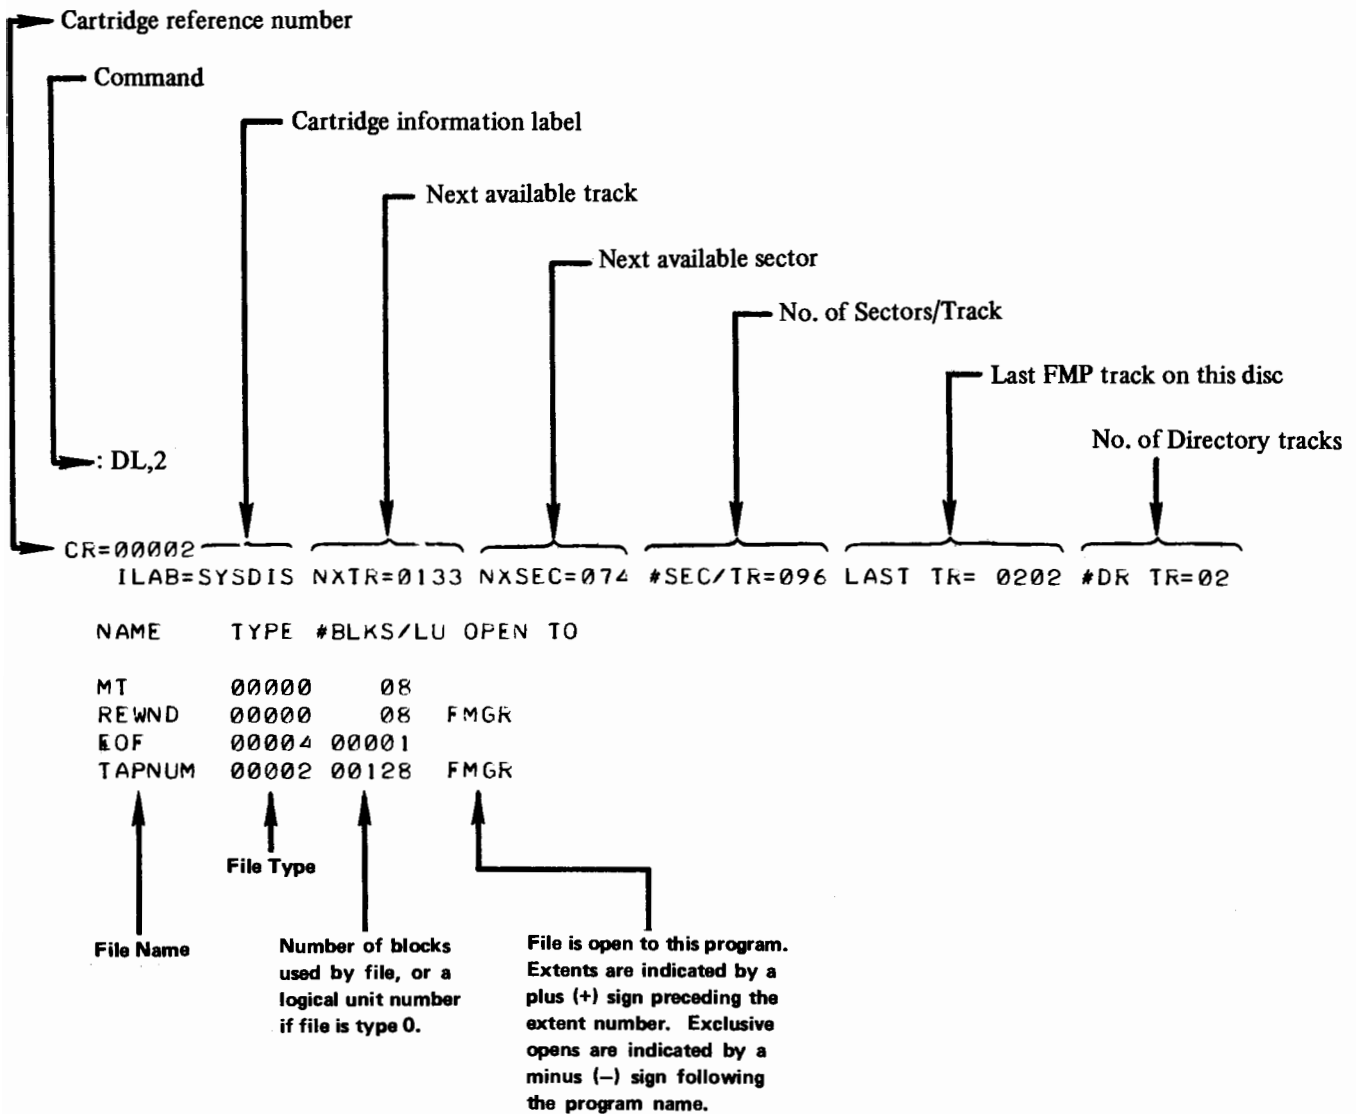
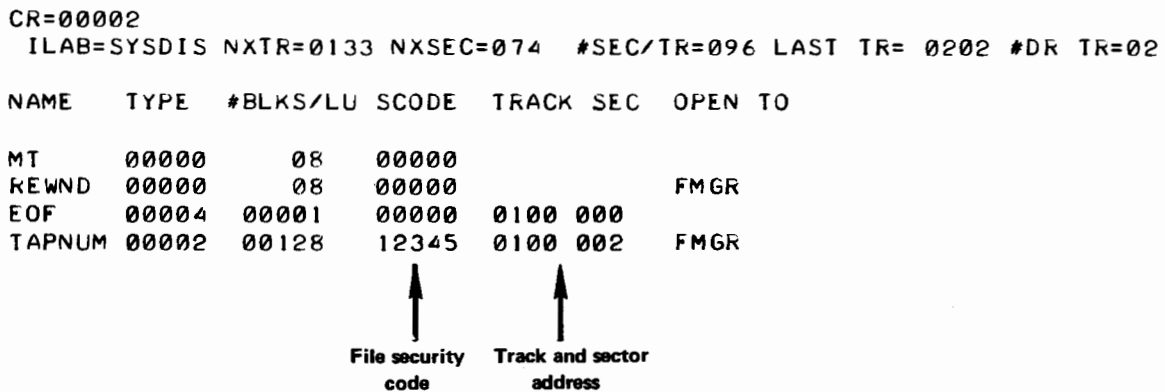

Figure 3-1. Short List
Figure 3-2. Long List
- The *label* parameter indicates which cartridge file directory is to be examined. If *label* is not present, or it is a 0, all mounted cartridge directories will be listed. There are two list formats. Figure 3-1 shows the format when the master security code is not provided.
- Figure 3-2 shows the format when the master security code is provided. In addition to the information described in Figure 3-1, the file security code plus track and sector addresses are provided.
id	is the cartridge information label (ILAB – refer to Figure 3-1/3-2), and must have the characteristics of a legal file name. Refer to text under the heading NAMR for a description of a legal file name. id is printed in the head of the directory listing.